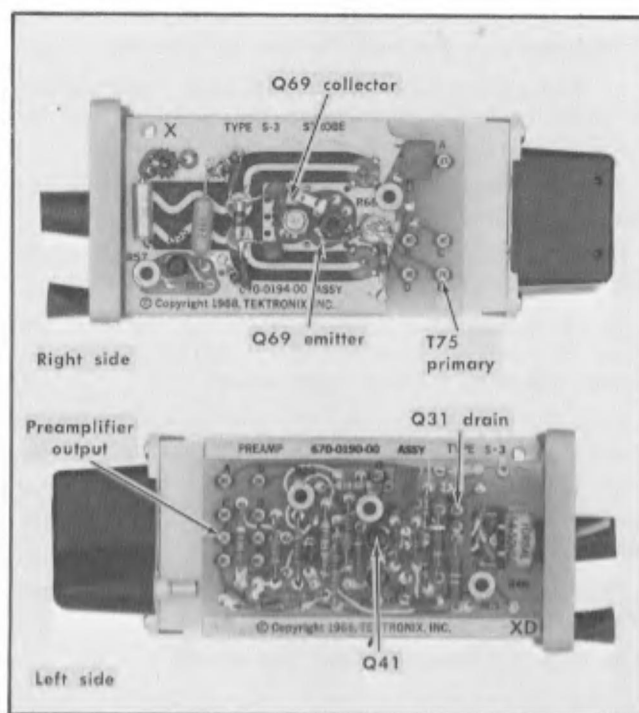
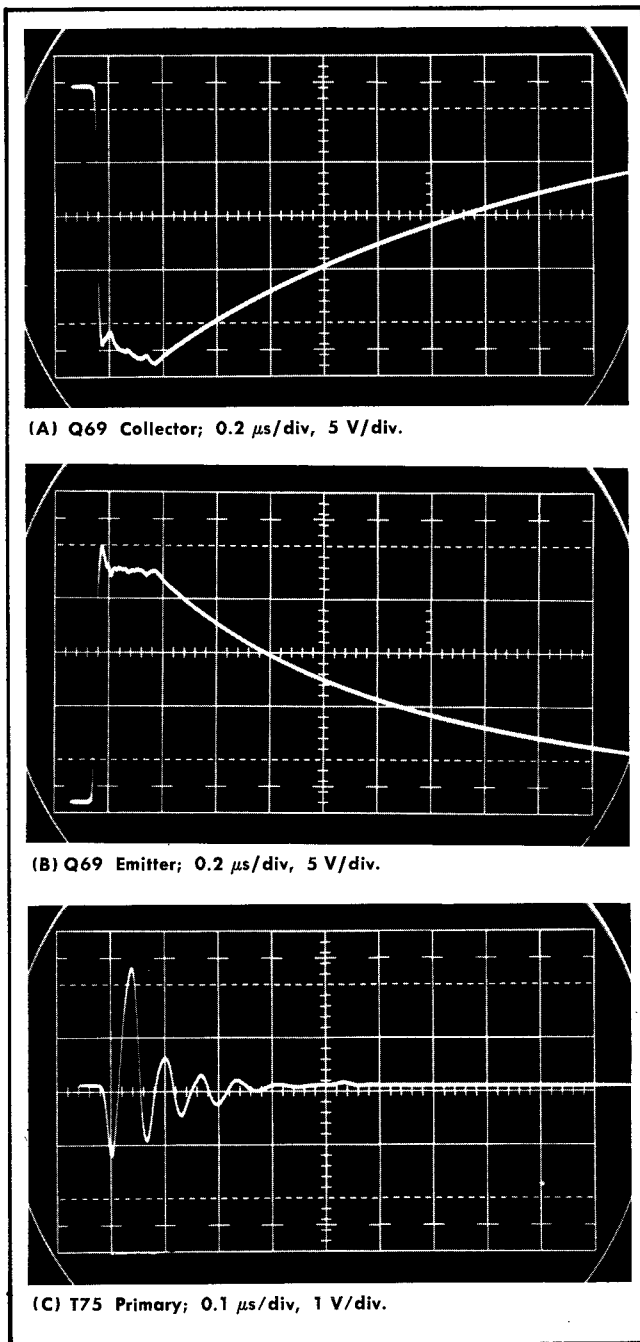

Fig. 5-2. Test point locations for step 2.
Fig. 5-3. Checking Avalanche drive and output.
d. Use the test oscilloscope with  $1\times$  Probe, to check for proper operation of Q69. The probe connections are shown in Fig. 5-2, and the general nature of the signals is shown in Fig. 5-3. Fig. 5-3A and B show the general amplitude for Q69 collector and emitter signals. Fig. 5-3C shows the typical drive signals at T75 primary (square terminal E of Strobe board) while the head is on the extender cable.
the displayed noise, so it is best to have several transistors of this type on hand and grade them for low noise using step 10). If all signals of Fig. 5-3 are present, check the Preamplifier output (square terminal E of Preamp board). If there is no signal at the Preamplifier output, check the sampling diodes and Q31 in the following manner.